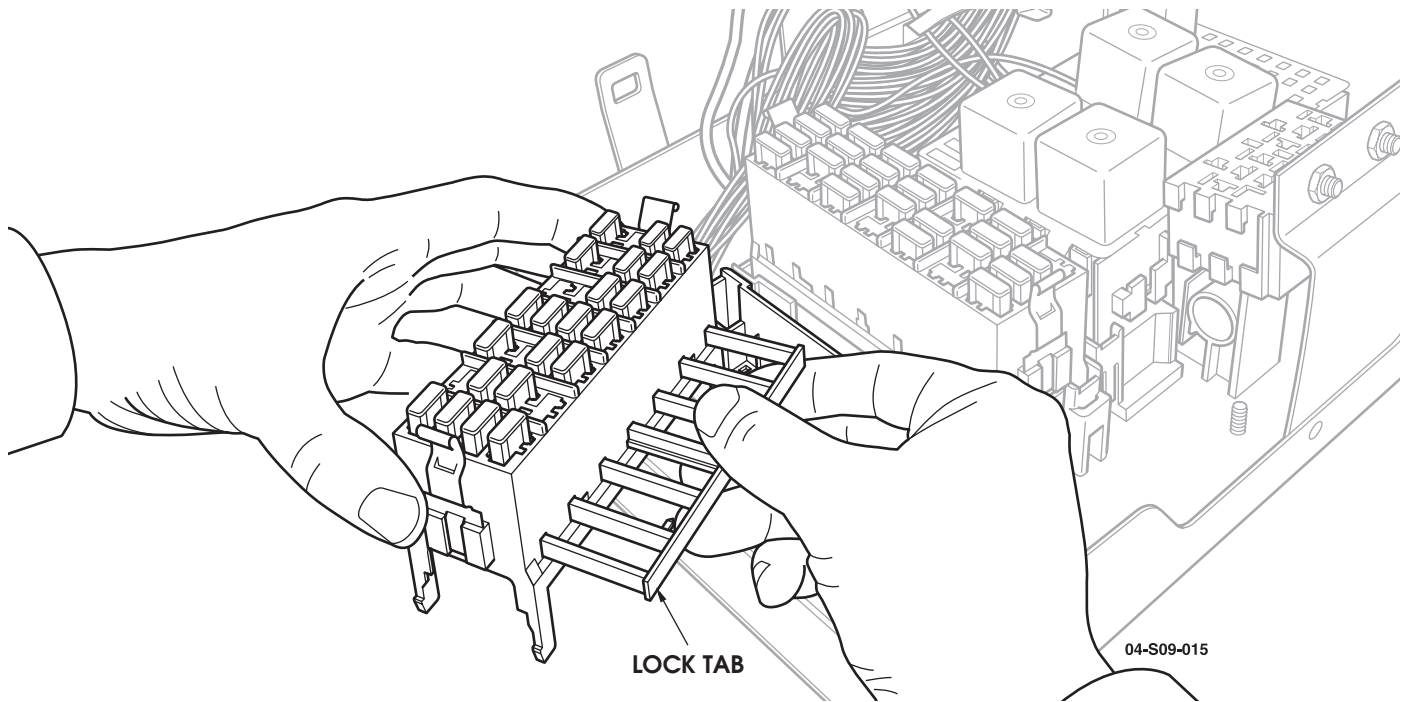

Figure 12: Lock tab removal.
24. Remove the terminal lock tab and insert the red with a yellow tracer wire and terminal in the cavity corresponding with the 6D fuse position (See Figures 12 & 13). Insert the red wire and terminal in the cavity corresponding with the 3B fuse position. Place the supplied 30 amp fuse in the 6D position and the 5 amp fuse in the 3B position. Install the lock tab in the block.